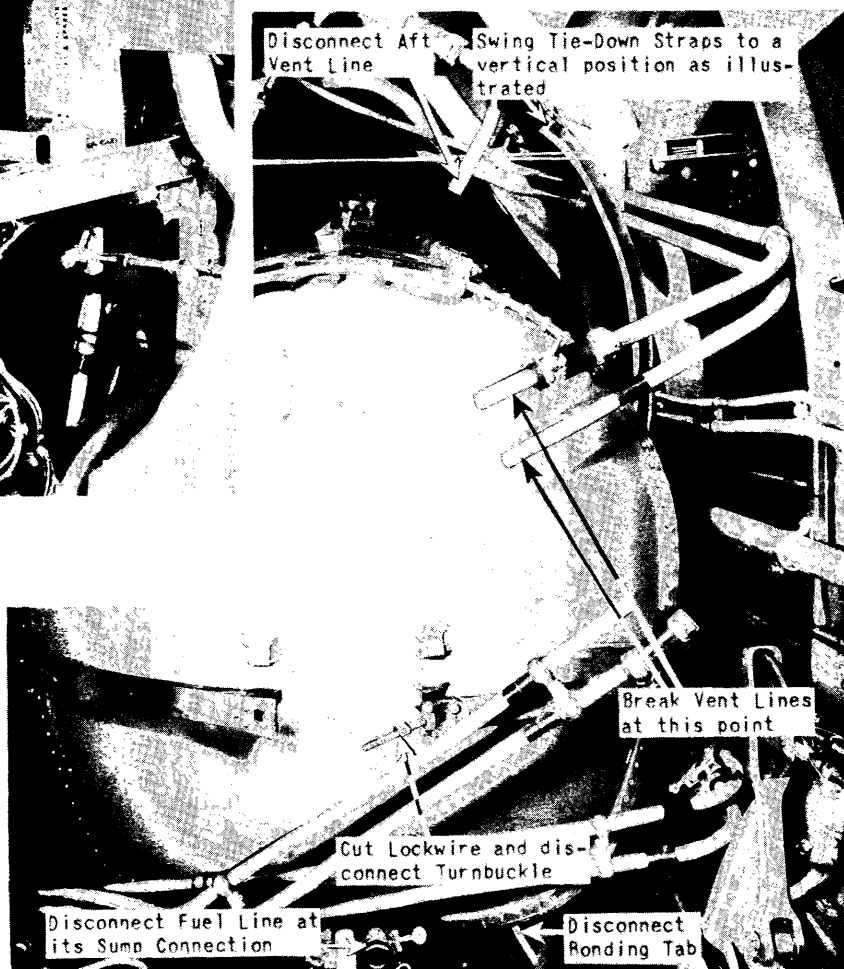

Figure 211 - Aft End of Fuselage
(2) By climbing into the fuselage through the access door and leaning over the center radio shelf, forward of the access door, a man can remove the fuel supply line at the bottom rear of the tank, at the sump connection, by loosening the clamp fitting and pulling the connection free. Disconnect the rear vent line on top of the tank and break the lock wire on the rear tie-down strap turnbuckle. Unscrew the turnbuckle and swing the straps to the sides of the fuselage. (See figure 211.) Also disconnect the bonding tab at the nut plate on the tank to the right of the sump assembly.
(3) Break the hose connections on the vent lines aft of the tank. (See figure 211.)
(4) Cut the lock wire on the aft tie-down strap turnbuckle and release the turnbuckle as shown in figure 211.